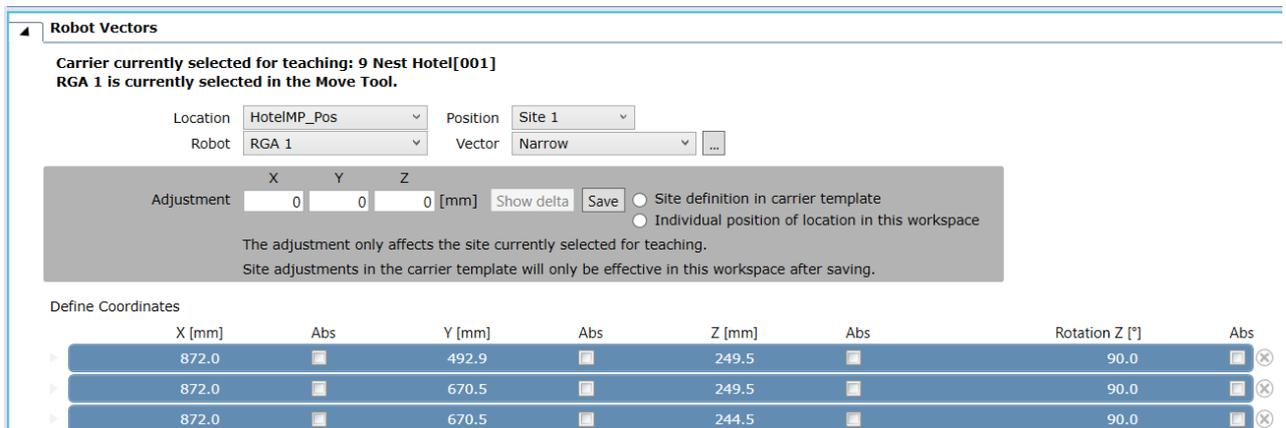
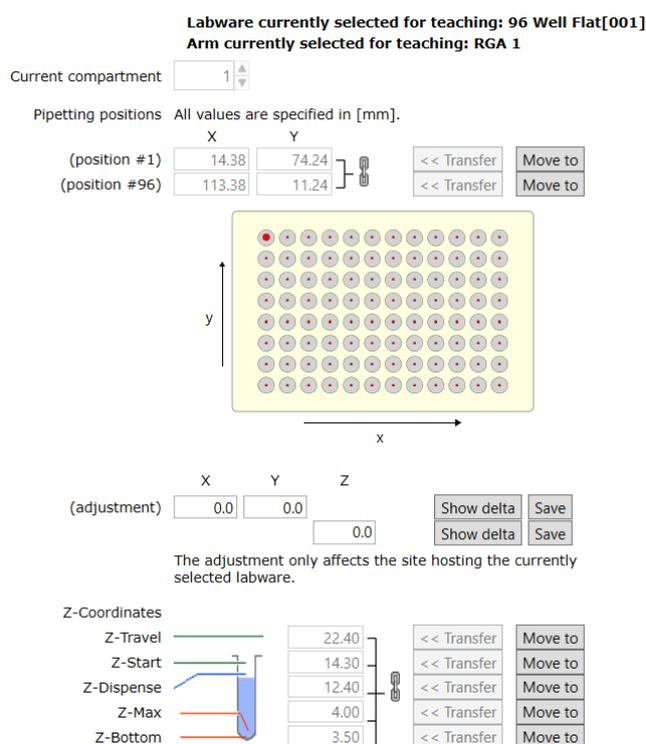

Fig. 2. Site-specific adjustments to carriers are stored on the instrument when the radio button 'Individual position of location in this workspace' is chosen.
Fig. 3. Site-specific adjustments to carriers can also be made via the labware editor. These values are stored on the instrument.
2. By adjusting a carrier site on a worktable, either via the carrier definition or the labware definition editors. See also Fig. 2 and Fig. 3 below.